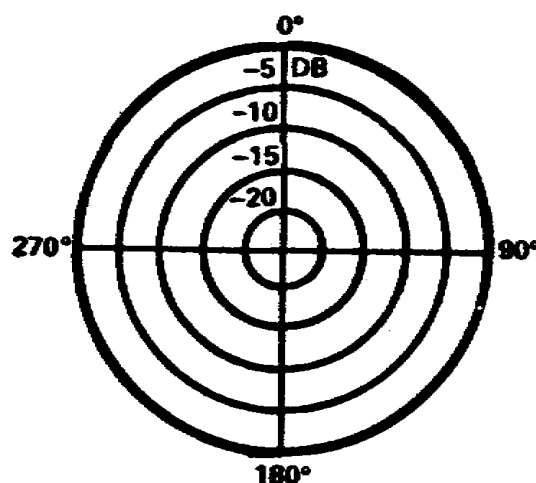

Figure 2-21. Omnidirectional pickup pattern
(1) **The Omnidirectional Pickup Pattern.** Microphones with this pattern configuration accept sound equally from any direction without loss of characteristics. There are no variations of this pattern (fig 2-21).